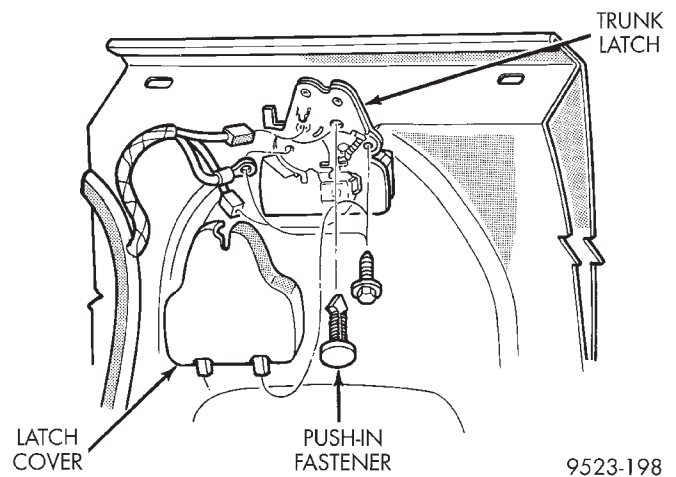

Fig. 64 Decklid Latch
- (1) Open decklid.
- (2) Disconnect clips attaching latch cover to decklid (Fig. 64).
- (3) Disconnect wire connectors from decklid latch.